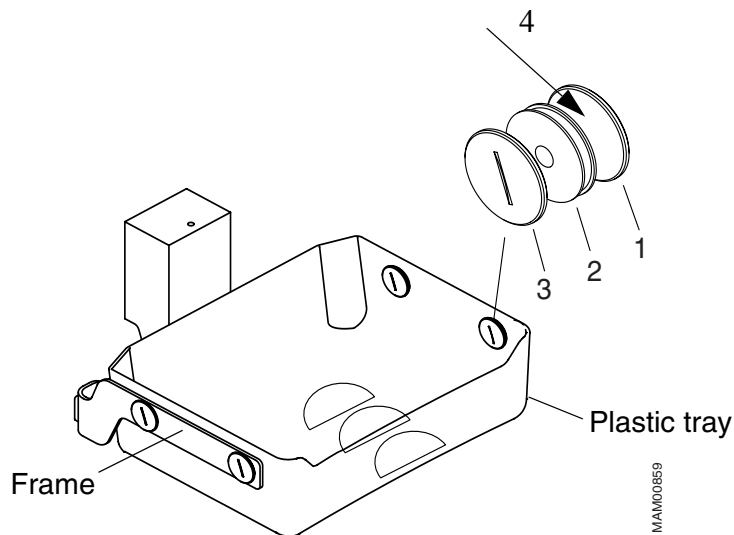

Fig. 5
1. Loosen the four screws and nuts (1 and 3 / Fig. 5) and remove the plastic tray from the frame.
2. Fit the four new rubber springs (2/ Fig. 5) to the new plastic tray. Make sure the rubber springs are properly positioned. (One rubber spring is delivered as reserve, if damage by fitting it into the hole should occur.)
3. Fit the new plastic tray to the frame on the support and fasten it with the four new screws and nuts (1 and 3/ Fig. 5). Do not forget to insert one washer 066 16 259 **each** between the outer collar of the rubber spring and the inner part of the frame (as indicated by the arrow 4 / Fig. 5). The washers are meant to prevent unprotected rubbing of the spring on painted inner surface of the support frame in case of **flexible** compression plates.